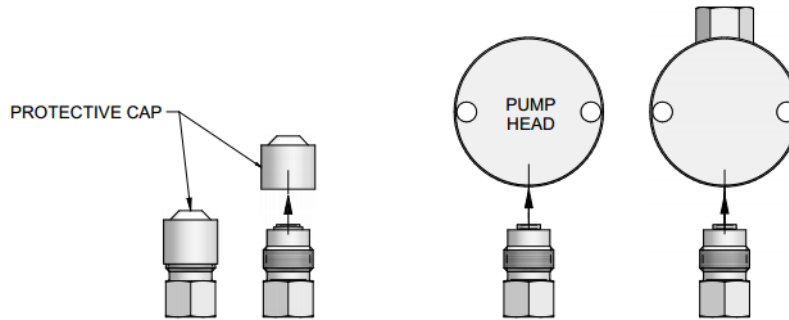

Figure 9, New Check Valves from package and proper orientation.
If this procedure does not return the pump to proper performance, the check valves should be replaced. An example of new check valves from their package can be seen in *Figure 9* below.
7. Hold one new check valve assembly as shown in *Figure 9* and unscrew the protective cap. With the check valve assembly maintained in the above position, thread it into the proper pump head port until it is snug. Install the other check valve assembly similarly.